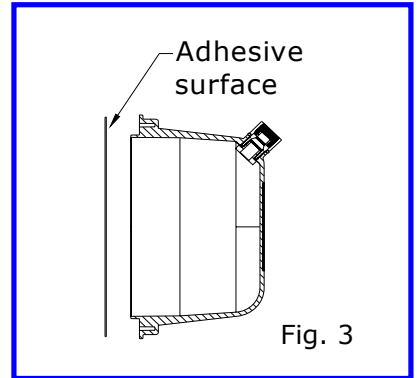

Fig. 3
- Stick one adhesive seal ring on the niche, lining up the holes (Fig. 3)